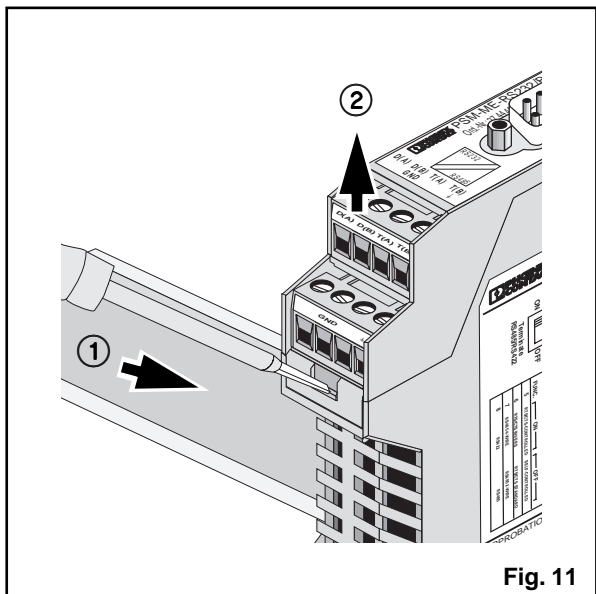

Fig. 11
- Yellow: Transmit data (TD), dynamic
- Green: Receive data (RD), dynamic
For configuration, release the top of the housing on both sides (1). Pull the p.c.b. out of the housing as far as possible (2) (fig. 11).